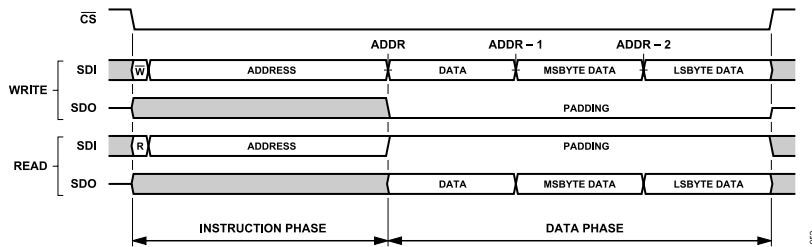
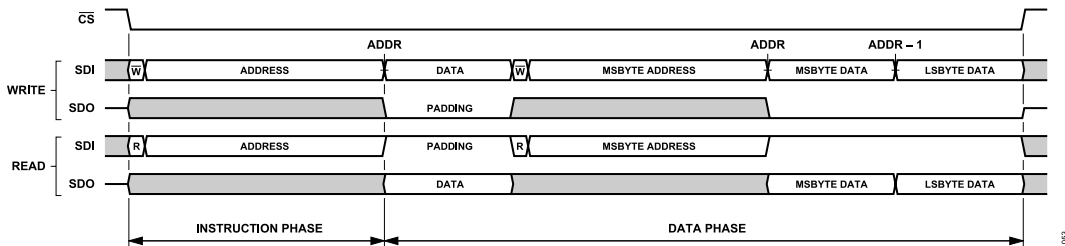
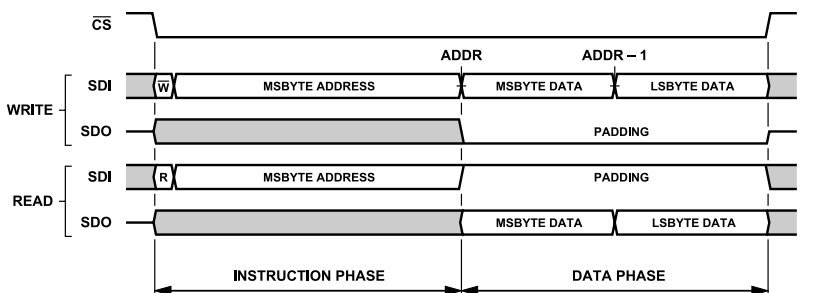
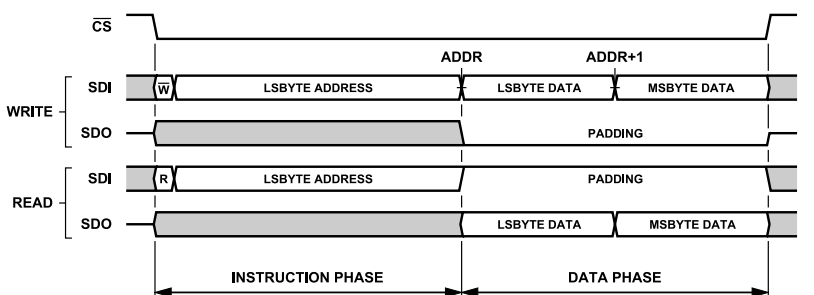

Figure 54. Interface Access Example, Default Interface Configuration, Streaming Mode (ADDR_ASCENSION = 0)
Figure 55. Interface Access Example, Single Instruction Mode (SINGLE_INST = 1), All Other Interface Options Default
Figure 57. Single Instruction Format, ADDR_ASCENSION = 0 (Descend), STRICT_REGISTER_ACCESS = 1 (Enabled)
Figure 58. Single Instruction Format, ADDR_ASCENSION = 1 (Increment), STRICT_REGISTER_ACCESS = 1 (Enabled)
Figure 54 illustrates the generic SPI frame formatting for a serial transaction using the default interface configuration. In this example, a portion of the configuration register space consisting of a byte-wide register and a multibyte register is accessed. The address for the byte-wide register resides in the most significant address (ADDRESS) and the most significant byte of the multibyte register resides in the least significant address of the register segment. By default, the ADDR_ASCENSION property is set to descending, indicating that the address for the most significant register is passed to the host controller during the instruction phase. Depending on the selected operation, the instruction word
In single instruction mode (SINGLE_INST = 1), the memory access controller requires an instruction phase to transmit for each register accessed in a given SPI frame as illustrated in Figure 55. This mode is useful when access to nonadjacent sections of the register space is required in a given SPI frame. Note that, the same access flexibility can be achieved in stream mode by initiating a new SPI frame for each unique register access.
The address ascension selection (ADDR_ASCENSION) bit, as described in previous sections, determines how the internal interface address pointer is updated for each byte of data transmitted to the AD4085 in streaming mode (SINGLE_INST = 0). If using single instruction mode (SINGLE_INST = 1), each register is directly addressed through its own instruction phase as illustrated in Figure 55, and thus, the address pointer is not updated. Regardless of the setting for SINGLE_INST, the ADDR_ASCENSION bit directly impacts the formatting of the SPI frame in terms of selection of the instruction phase starting address and byte order of the data phase payload. This impact is described in greater detail in the Strict Access Selection and Multibyte Registers section as much of the data formatting is dependent on this interface configuration selection. The ADDR_ASCENSION selection bit is located in the Interface Configuration A register (see the Interface Configuration A Register section, Address 0x00).
As indicated in Figure 57, the address counter, by default, automatically decrements (ADDR_ASCENSION = 0) such that the most significant byte of the multibyte register is accessed first, followed
As an extension of this concept, when STRICT_REGISTER_ACCESS = 1, any SPI frame that accesses a multibyte register as the first entity in the data transfer must correctly set the starting address in the instruction word to correspond to the ADDR_ASCENSION selection. In the case that the address counter automatically decrements (ADDR_ASCENSION = 0), the starting address is assigned to the register address for the least significant byte of that multibyte register, and conversely, if configured to increment automatically, the starting address must be set to the register address for the most significant byte. As a result of the change to ADDR_ASCENSION from automatic address decrement (0) to automatic increment (1), Figure 54 and Figure 55 will change as illustrated in Figure 57 and Figure 58 to accommodate the changes in data phase byte order and instruction phase multibyte register start address.